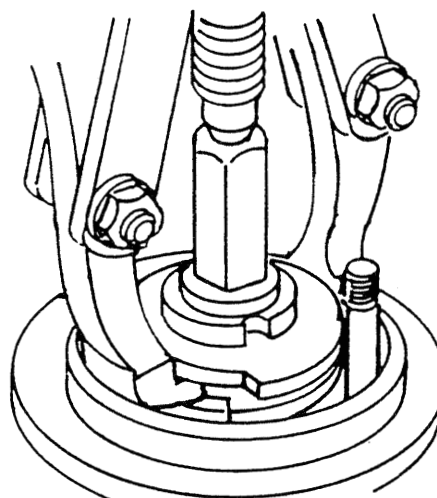

Figure 402. Removing Coupling Cam Assembly
- C. Assemble nut (2) to support cotter pin holes in end of shaft. Engage puller over shaft and cam assembly with jaws of puller hooked under cam assembly as shown in Figure 402.